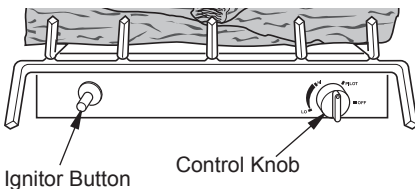

Figure 22 - Control Knob and Ignitor Button Location
5. Slightly press and turn control knob counterclockwise  to the PILOT position. Press in control knob for five (5) seconds (see Figure 22).